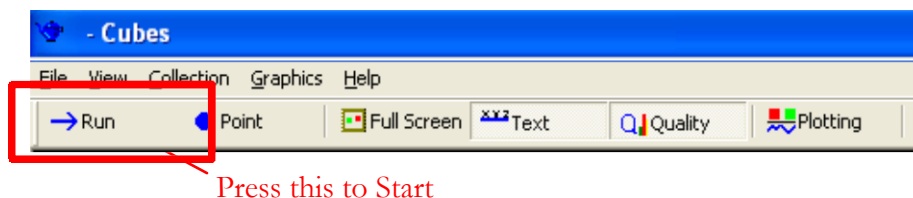

Figure 2-22: Continuous Run icon
1. To start collecting data from the driveBAY, press the 'Continuous Run' icon on the toolbar (Figure 2-22).